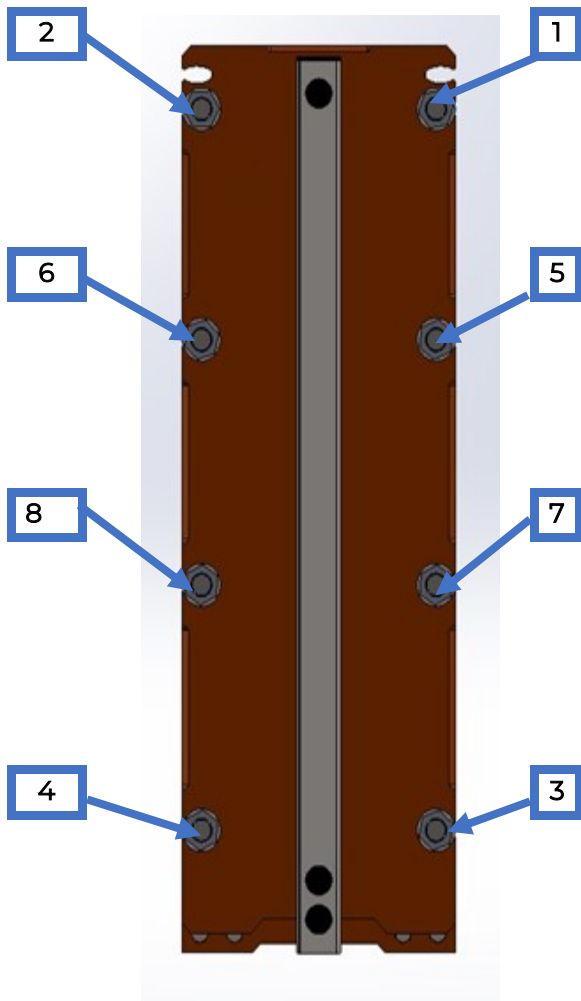

Fig. 13.2
- holding the nuts on the front plate side with a wrench, tighten the exchanger nuts evenly on the rear plate side. In option the exchanger blocked nuts with bolts, use these nuts for evenly tightening keeping in the same time the opposite nuts blocked. Perform the final tightening in the order indicated in **Fig. 13.2**, this order could be different depending on the number of threaded rods.